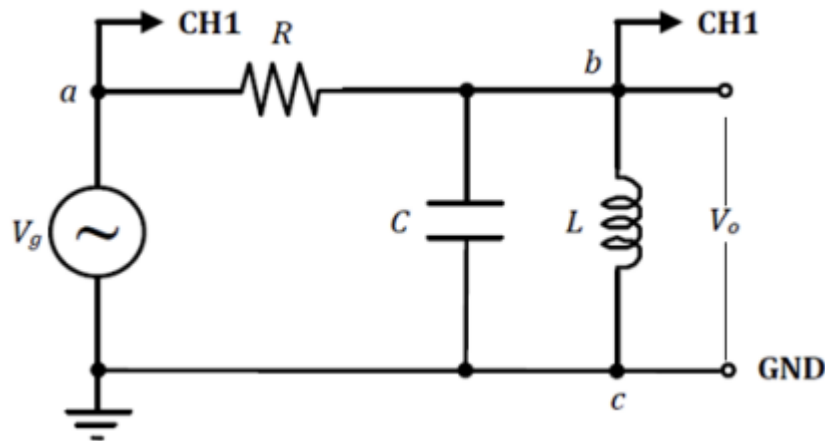

Figure 3: Circuit Diagram for Experimental Measurements
1. For the RLC circuit shown in Figure 3, consider an AC voltage source with a frequency of $f = 1$ kHz, amplitude of $V = 5$ V RMS, and component values $R = 1$ k Ω , $L = 47$ mH, and $C = 220$ nF:
5. Construct the series-parallel RLC circuit as shown in Figure 3 using the components:
10. To observe the input voltage V_g and output voltage V_o waveforms on the oscilloscope, connect the oscilloscope as shown in Figure 3:
13. Calculate the resonance frequency (f_0) using Equation (1) and record the result in Table 1.